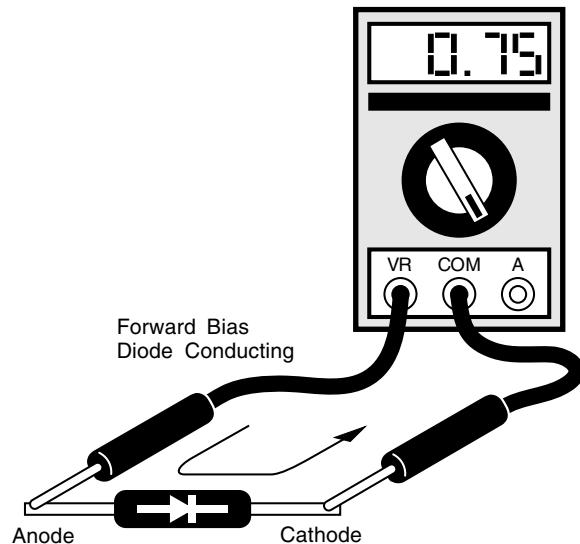

Figure 13-1: Forward bias diode test
5. To check the diode in the forward bias direction, connect the volt/ohm meter positive lead to the anode (positive, +) of the diode and the negative lead to the cathode (negative, -) of the diode (refer to Figure 13-1). A properly functioning diode will conduct in the forward bias direction, and will indicate between 0.3 and 0.9 volts.
6. To check the diode in the reverse bias direction, reverse the meter leads (refer to Figure 13-1). A properly functioning diode will block current flow in the reverse bias direction, and depending on the meter function, will indicate an open or "OL".